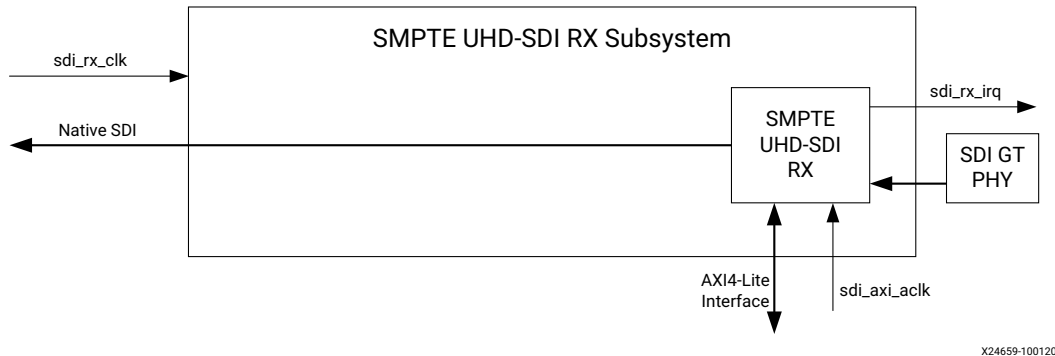

Figure 1-3: SMPTE UHD-SDI RX Subsystem Native SDI Architecture
Figure 1-3 shows the SMPTE UHD-SDI RX Subsystem with native SDI as the user interface. The subsystem accepts native SDI input and consists only of the SMPTE UHD-SDI (RX) IP core.